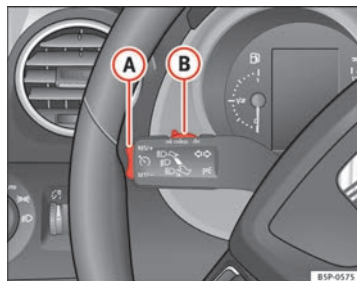

Fig. 150 Turn signal and main beam headlight lever; switch and rocker switch for the cruise control
- Press the lower part **SET/-** of the rocker switch ⇒ Fig. 150 **A** once briefly when you have reached the speed you wish to set.